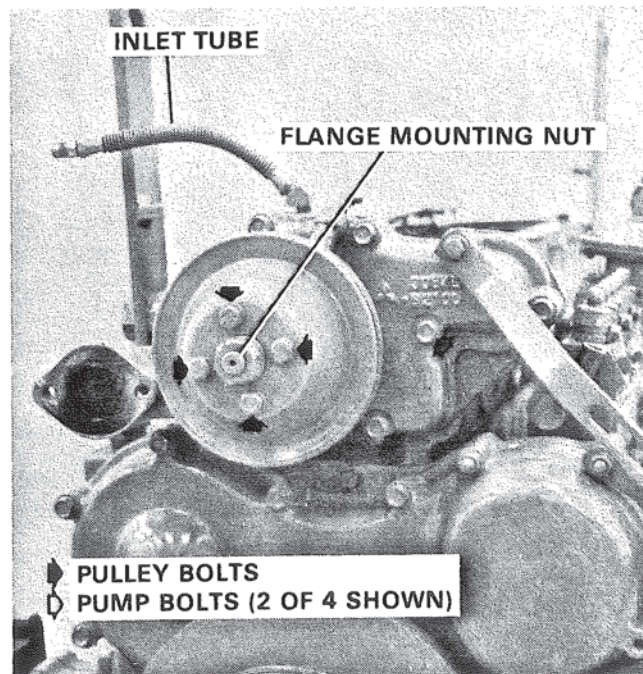

Figure 18. Installing Pump.
1. Mount pump to engine. Figure 18.